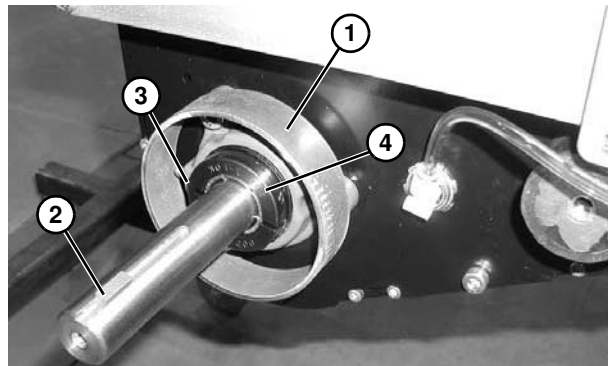

Figure 179
4. Remove spacer ring (**Figure 179, item 1**) and key (**Figure 179, item 2**). Loosen clamp screw (**Figure 179, item 3**) and remove bearing collar (**Figure 179, item 4**).
8. Reinstall bearing collar (**Figure 179, item 4**). Tighten clamp screw (**Figure 179, item 3**) to 11 Nm (95 in lbs).
9. Reinstall key (**Figure 179, item 2**).